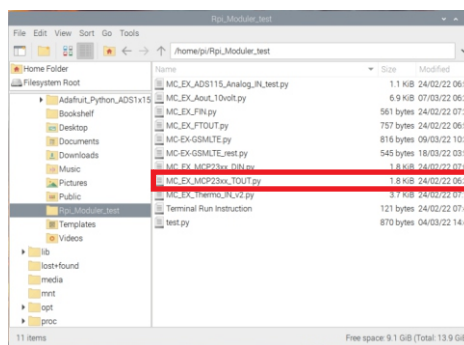

Figure 3: The example programs for expansion modules.
8. Select the **MC\_EX\_MC23xx\_TOUT.py** example program that matches with the Transistor Output expansion module shown in Figure 3.